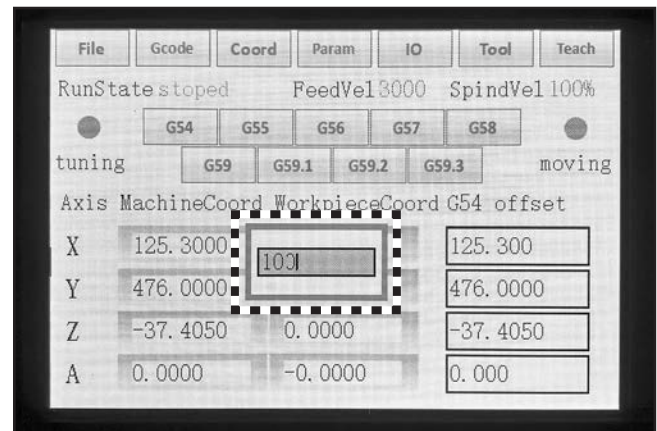

Figure 49. Dialog box opened for inputting coordinates.
5. Use numerical input keys to enter desired coordinate offset in inches/millimeters, as shown in **Figure 49**.